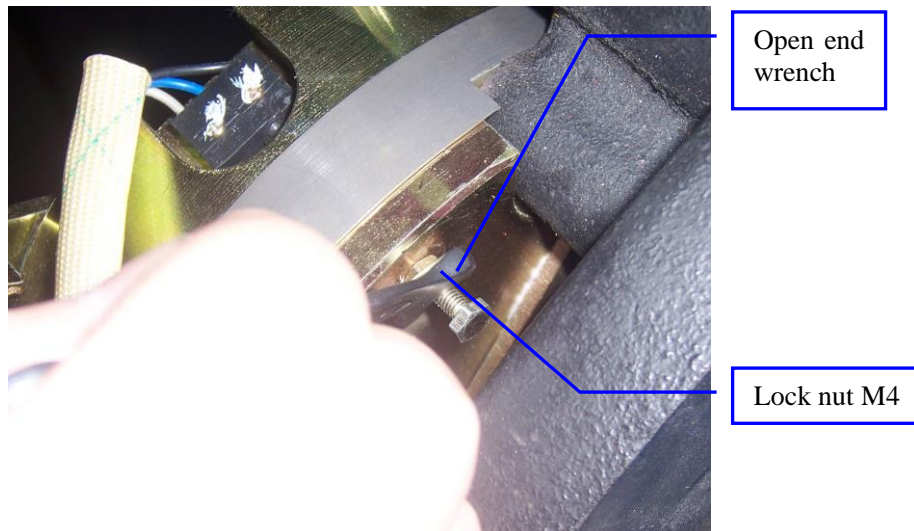

Figure 44: Brake switch adjustment
1. Use the open end wrench 7mm to loosen the lock nut M4 and the activation bolt. See Figure 44.